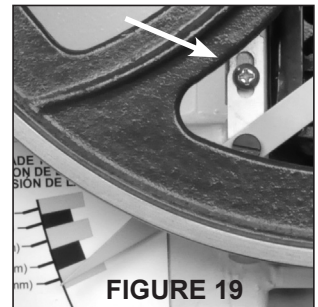

FIGURE 19
1. With desired tension on the blade, loosen the top adjusting Screw (#8A) with a Phillips screwdriver. Fig. 19.